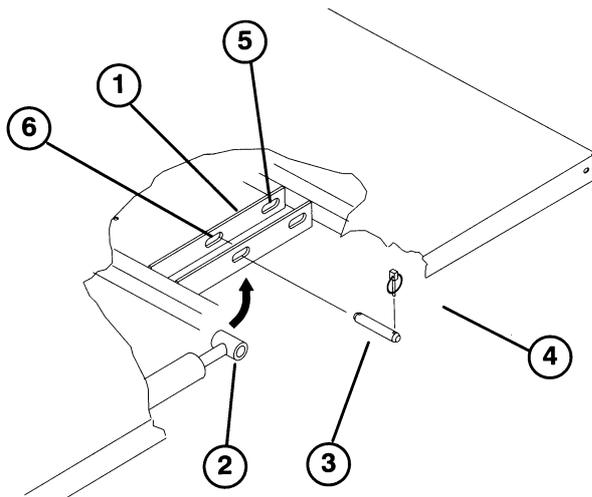

Figure 1
2. Remove the Lynch pins from the outer ends of the cylinder rod clevis pins (Fig. 1).
3. With bed lowered, secure each cylinder rod end, to appropriate slots in bed mounting plates with clevis pin and Lynch pin. Insert clevis pin from outside of bed with Lynch pin toward outside (Fig. 1). Rear slots are for full bed installation and front slots are for 2/3 bed installation.